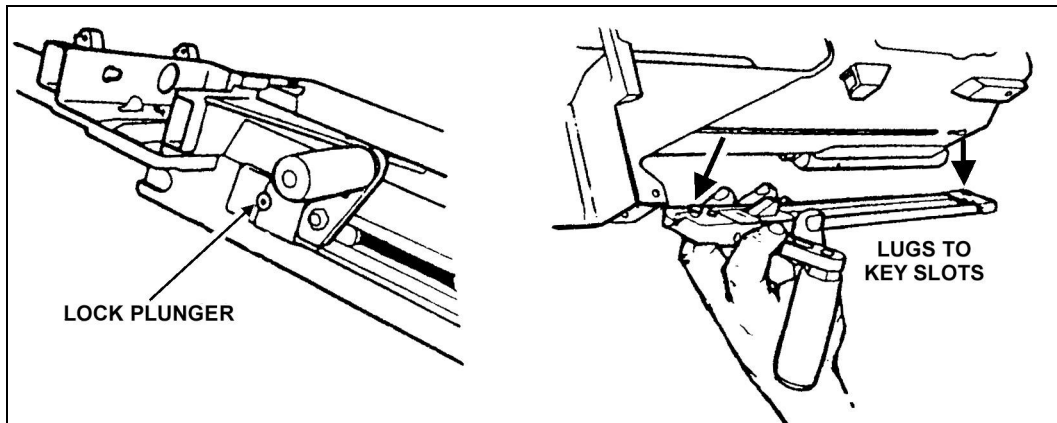

Figure 2-21. Charger assemblies.
- (10) Take out the charger assemblies from both sides by following these procedures.
- (d) Lift the charger assembly away from the receiver (Figure 2-21).